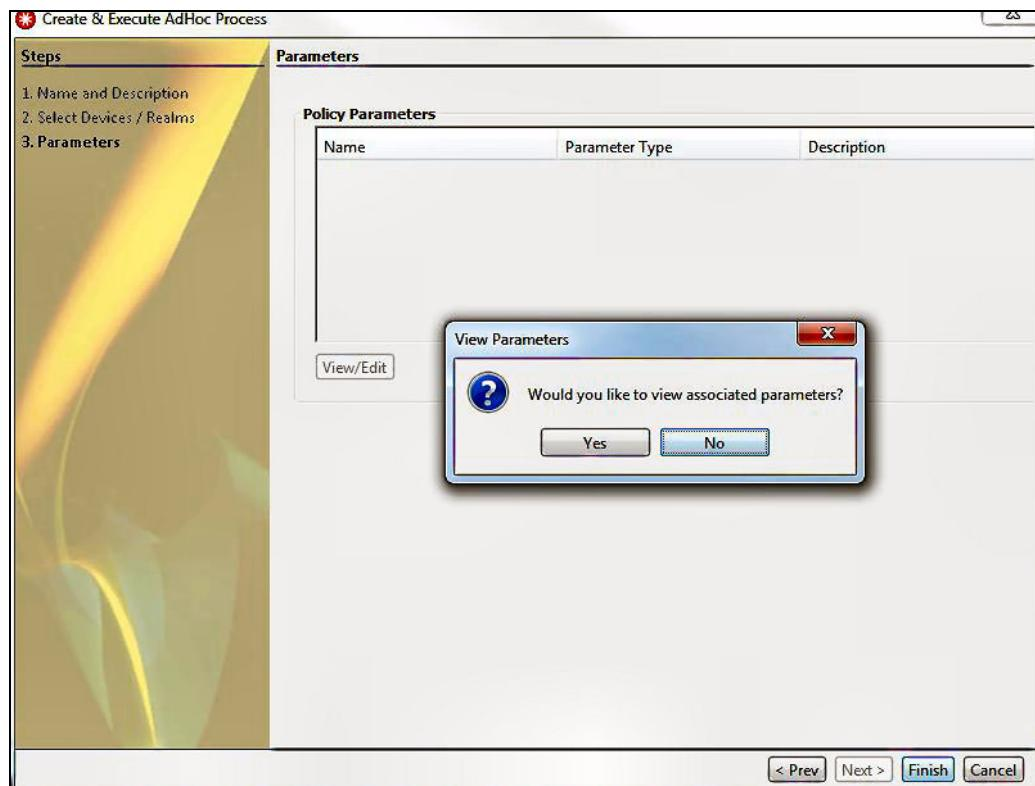

Figure 4-18 Answering No to View Parameters prompt
3. Answer **No** to the View Associated Parameters question and click **Finish**, as shown in Figure 4-18.